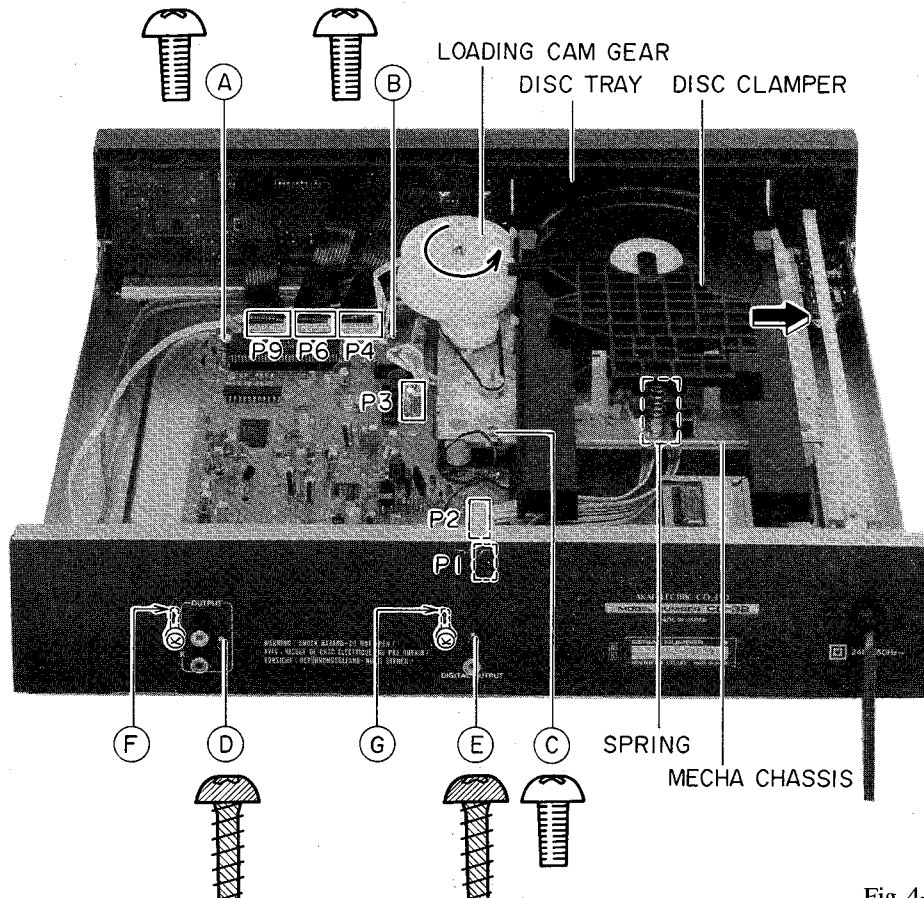

Fig. 4-1
- 2) Remove the MAIN PCB fixing screws (A), (B), (C), (D) and (E), also resolder (F) and (G), then remove the MAIN PCB. (Refer to Fig. 4-1)
* Reassemble in reverse order. (Refer to Fig. 4-1)